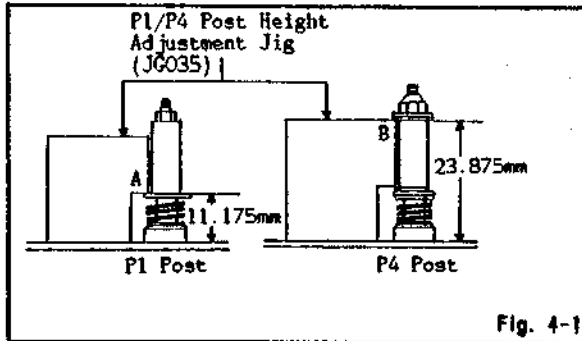

Fig. 4-1
2. Adjust the P1 post with P1/P4 post height adjustment jig "A" part. (Refer to Fig.4-1)
2. Adjust the P4 post with P1/P4 post height adjustment jig "B" part. (Refer to Fig.4-1)